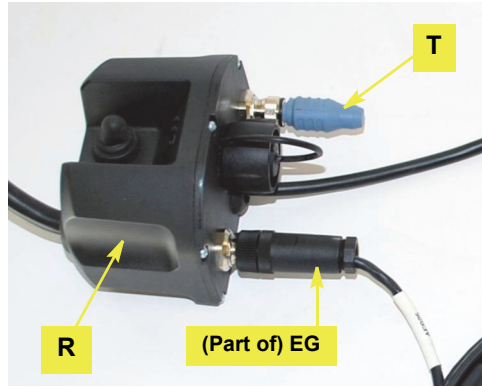

Figure 7d: CAN harness and terminator connected to junction box
e. Connect the threaded 5-pin connector on the CAN cable **EG** to either of the threaded connectors on the junction box **R**. Connect the CAN bus terminator **T** to the other threaded connector on the junction box (Figure 7d).